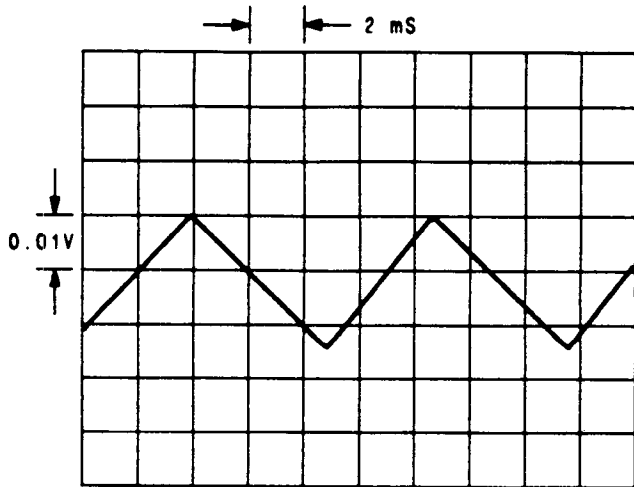

Figure 3. Oscilloscope display of TP4 (dc coupled), Signal Generator's frequency 950 MHz, modulation EXT FM 99 kHz (100 Hz square wave).
7. Verify that the oscilloscope displays the same waveform as shown in Figure 3.